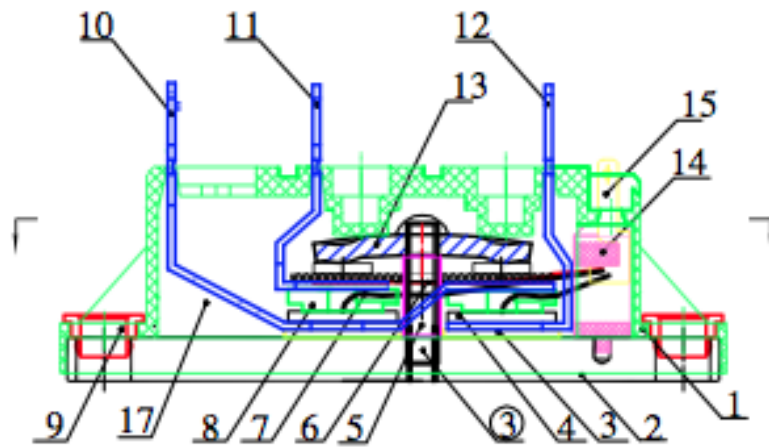

Fig.4: Sectional view of a pressure contact module
- Connecting of the components in the module using a pressing element. The components are connected through mechanical force (Fig. 4).